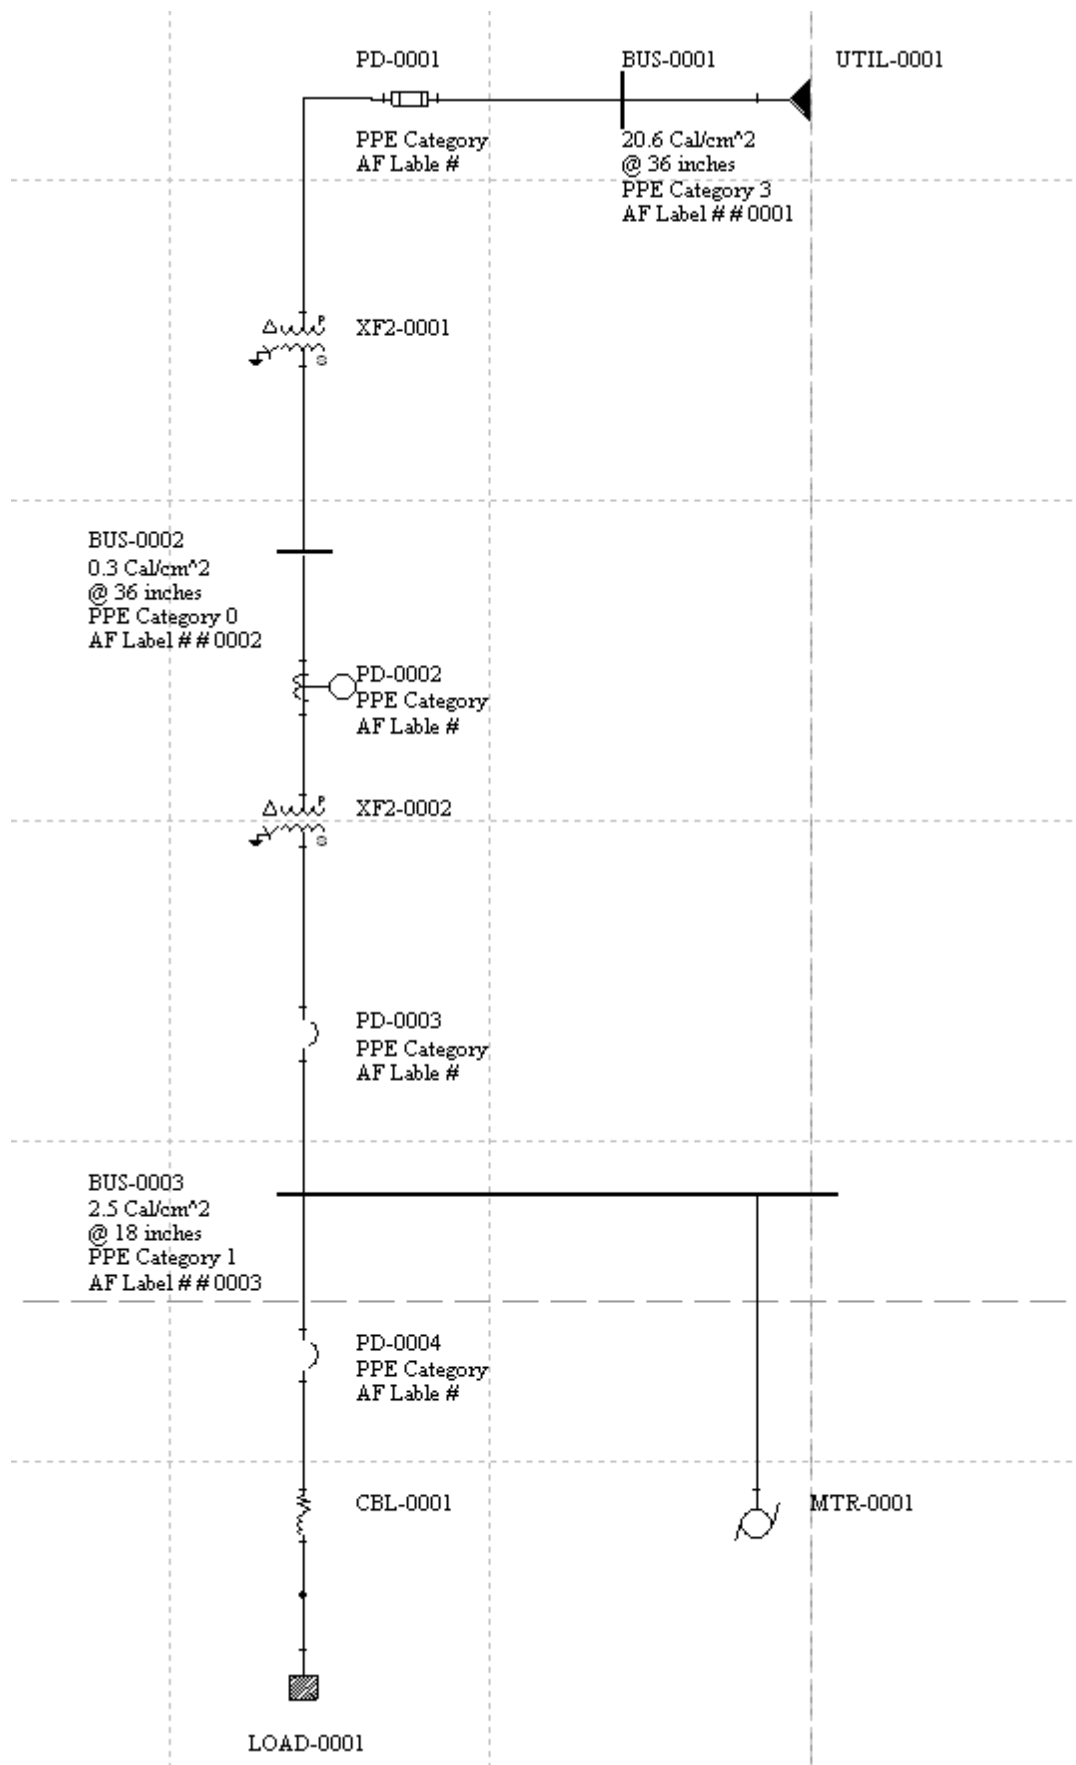

Figure 3.3 Arc Flash View
Figure 3.3, illustrates a typical single-line drawing with the Arc Flash (AF) label information. In this view the incident energy and distance is shown first. For Bus-0003, which could be a Panel or MCC and is located downstream from transformers XF2-0002, the incident energy is 2.5 Cal/cm^2 at a distance of 18". Additional information shown in this view includes the category of Personal Protective Equipment (PPE) required and the label number that will be generated from the software program. Single-Line Arc Flash Views are located in Appendix V.